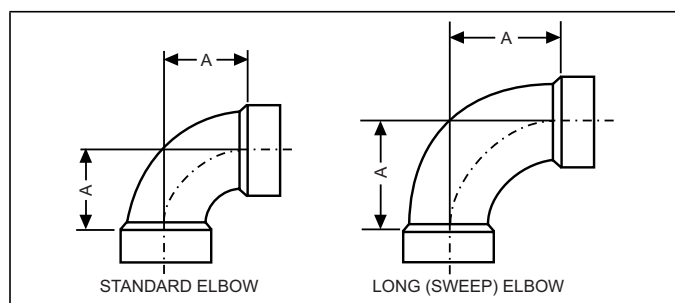

FIGURE 23: Dimensions
1. Drain, waste, and vent (DWV) elbows with a long radius (sweep) are recommended. Standard DWV elbows may be used, but since they have a longer equivalent length, they will reduce the total length of pipe that will be allowed. Short radius (plumbing or pressure) elbows are not allowed for venting. The standard dimensions of the acceptable elbows are shown in Figure 23.